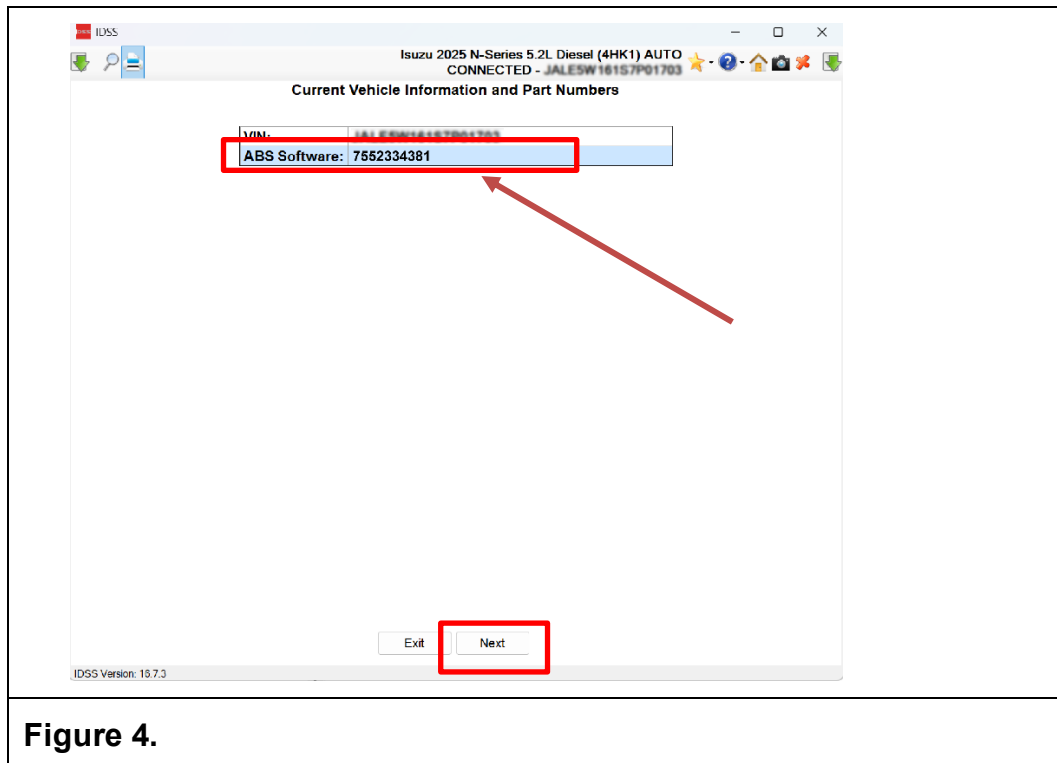

Figure 4.
7. A screen will appear that shows the currently installed ABS calibration number. (See Figure 4.)